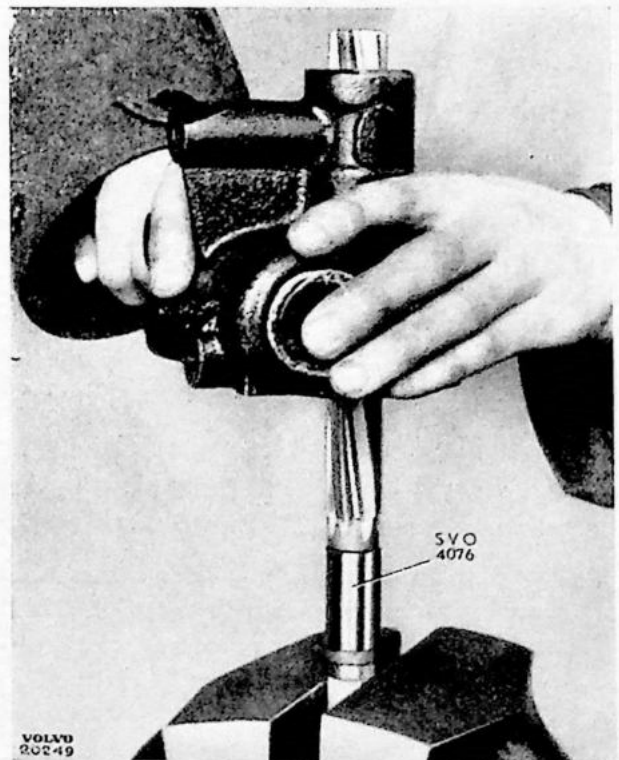

Fig. 25. Reaming the bushings.
1. Press lever shaft bushings into position with drift SVO 4075 and ream with SVO 4076 (fig. 25). Remove burr from steering mechanism.